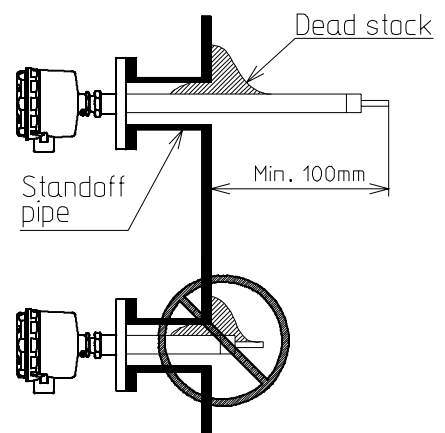

Fig.12
- (5) When side mounting, beware of the stand off pipe length. Min, length between the hopper length and the hopper wall is 100mm. Otherwise, the dead stock may cause malfunction. See Fig. 12.